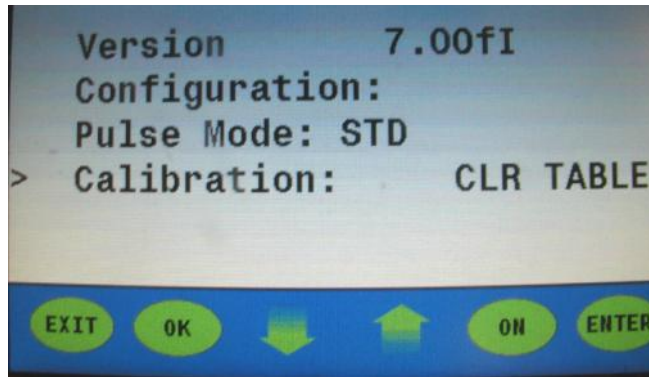

Figure 16
- 13. Press ENTER. **(Figure 16)**